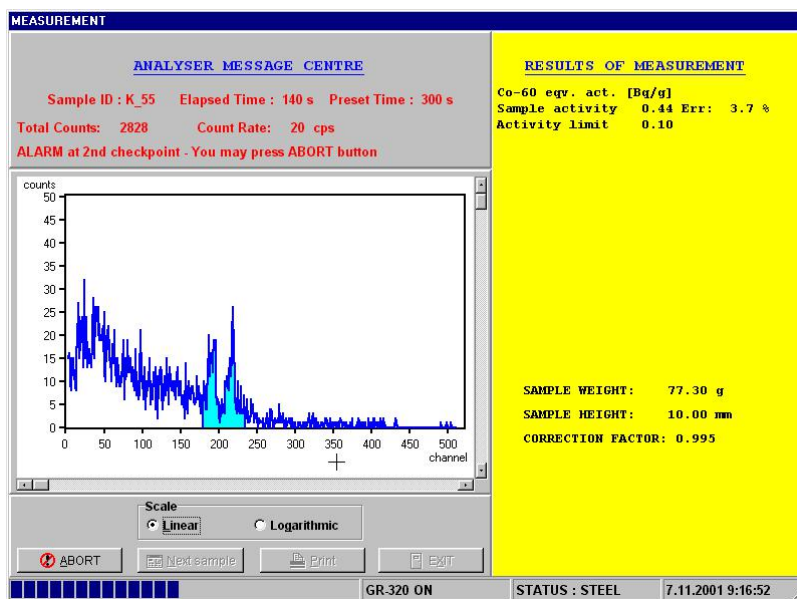

Fig. 25
- if the Sample activity is ABOVE the Activity limit AND if the Err % is BELOW the preset limit of 5 % , then an alarm is declared - see Fig. 25 – and user is allowed to exit the measurement and spectral analysis evaluation can be carried out